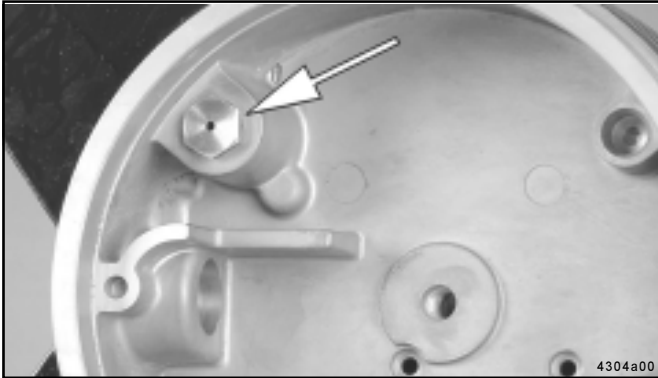

Fig. 16-Pressure relief valve (cartridge) in housing
<p>• Cause:</p> <ul style="list-style-type: none"> <li>• Bearings, lines or divider block clogged.</li> <li>• Mounting position of divider block: bottom                     <ul style="list-style-type: none"> <li>– On divider blocks SSV 8, SSV 12 or SSV 18, the outlet borehole 1 and/ or 2 is closed.</li> </ul> </li> <li>• Mounting position of divider block: back                     <ul style="list-style-type: none"> <li>– On divider blocks SSV 6, SSV 12 or SSV 18, the outlet borehole 1 is closed and outlet 2 is connected.</li> </ul> </li> </ul> <p>The fault can be identified as follows: The indicator pin on the divider block piston doesn't move.</p>	<p>• Remedy:</p> <ul style="list-style-type: none"> <li>• Determine the cause of the blockage as described in the following example and eliminate it:                     <ul style="list-style-type: none"> <li>* Let the pump run.</li> <li>* Disconnect all feed lines (D) (Fig. 19) of the divider block one after the other. If grease or oil shows e.g. at outlet 3 under pressure, the blockage is located in the line of outlet 3 or in the connected bearing point.</li> <li>* Pump through the blocked line or bearing point using a hand pump.                             <p>Note: To check the individual outlets, leave all outlets disconnected for a while, since only one piston stroke is executed with each motor revolution. However, several strokes are required for a full cycle of all divider blocks.</p> </li> </ul> </li> <li>* Check pressure relief valve (Fig. 16). Replace it, if necessary.</li> </ul>